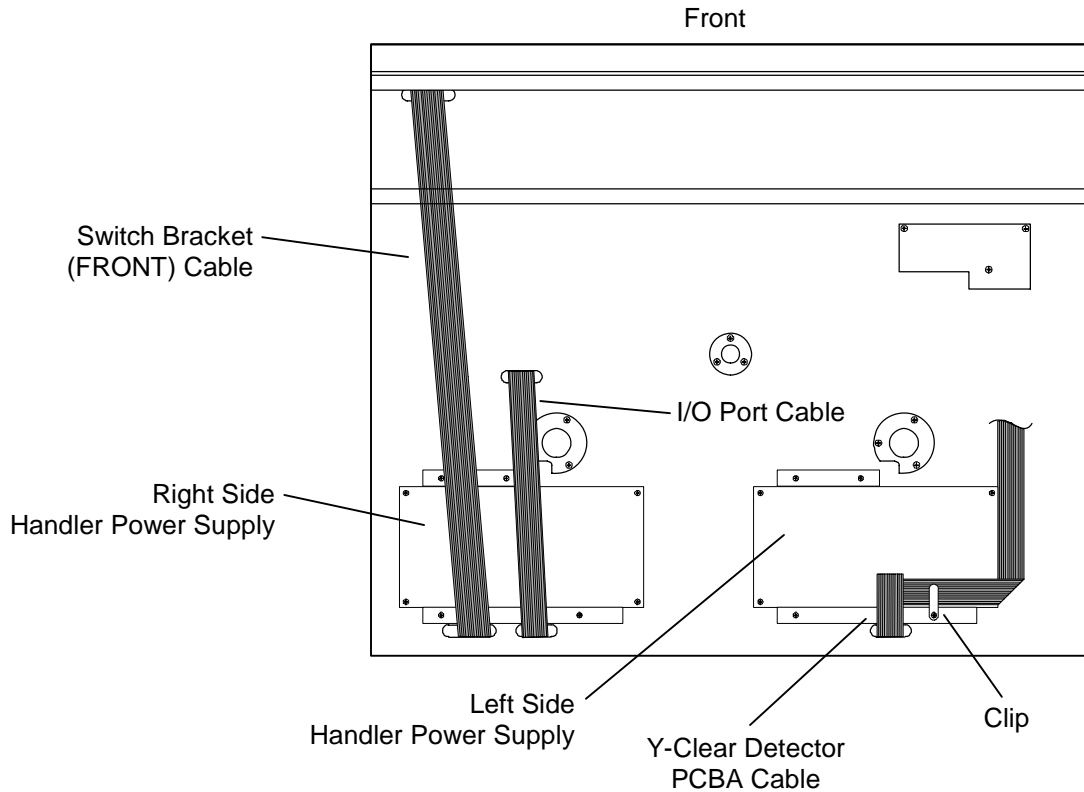

Figure 7-29 Top View of Handler Power Supplies (As seen from the back of the TLS)
3. This step only applies when removing the right side Handler Power Supply. Use a number 2 Phillips screwdriver to remove all six Rear Service Panel mounting screws (Figure 7-29), then remove the Rear Service Panel on the left side of the TLS when viewed from the rear.
- This step only applies when removing the left side Handler Power Supply. Use a number 2 Phillips screwdriver to loosen the screw attached to the clip holding the Y-Clear Detector Cable in place on top of the TLS. Move the cable out of the way of the power supply. See (Figure 7-29).
8. This step only applies if the right side Handler Power Supply was removed. Place the Rear Service Panel onto the TLS, then use a number 2 Phillips screwdriver to reinstall all six Rear Service Panel mounting screws (Figure 7-29).
9. This step only applies if the left side Handler Power Supply was removed. Position the Y-clear detector cable as seen in Figure 7-29 and slide it under the clip. If the clip is too tight use a number 2 Phillips screwdriver to loosen the screw attached to the clip and retighten it after the cable is in place.